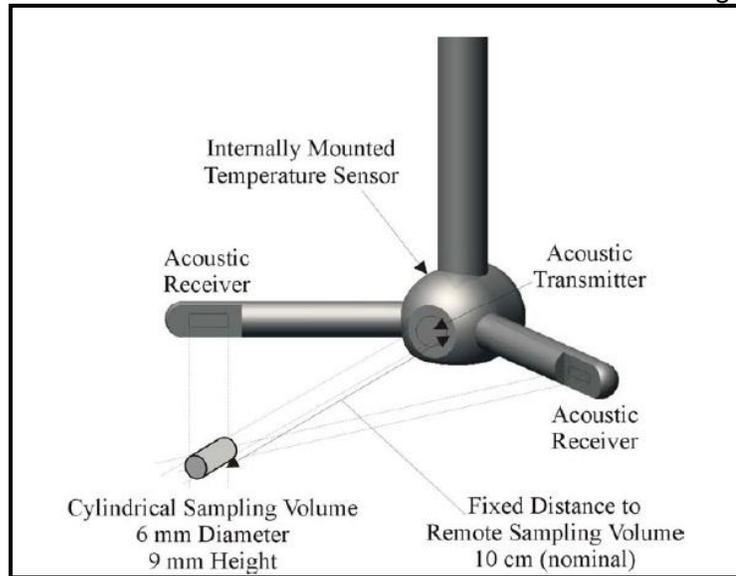

Figure 1: 2D FlowTracker receiver focus and sample volume.
- 6.3 Receivers: Are mounted on arms from the central probe head and are focused on a common sample volume taken at a fixed distance of 10 cm from the arms. See Figure 1 below.